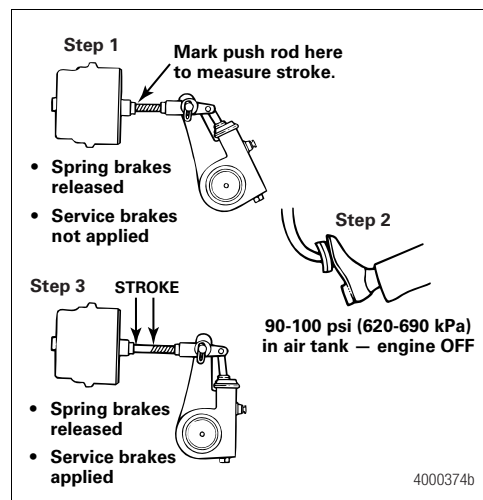

Figure 15
- With the brakes released, mark the push rod where it exits the chamber. Measure and record the distance. Have another person apply and hold the brakes on full application. Figure 15. Hold the ruler parallel to the push rod and measure as carefully as possible. A measurement error can affect CVSA re-adjustment limits. CVSA states that "any brake 1/4-inch or more past the re-adjustment limit, or any two brakes less than 1/4-inch beyond the re-adjustment limit, will be cause for rejection."
- Measure the push rod travel or adjusted chamber stroke from where the push rod exits the brake chamber to your mark on the push rod. Measure and record the distance. Figure 15.